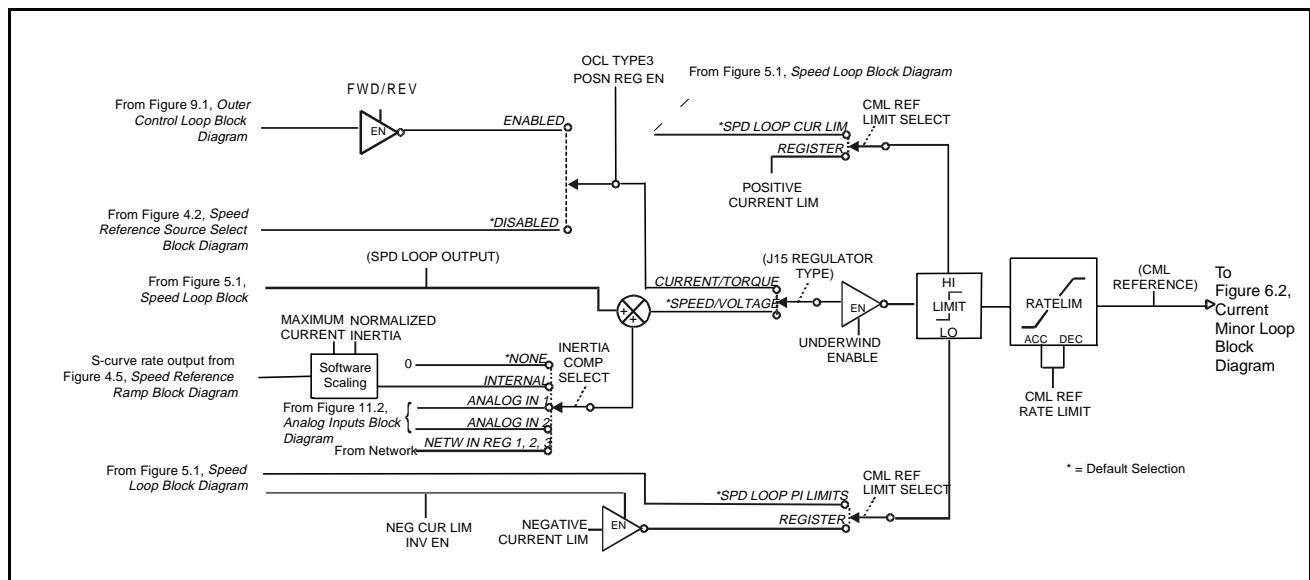
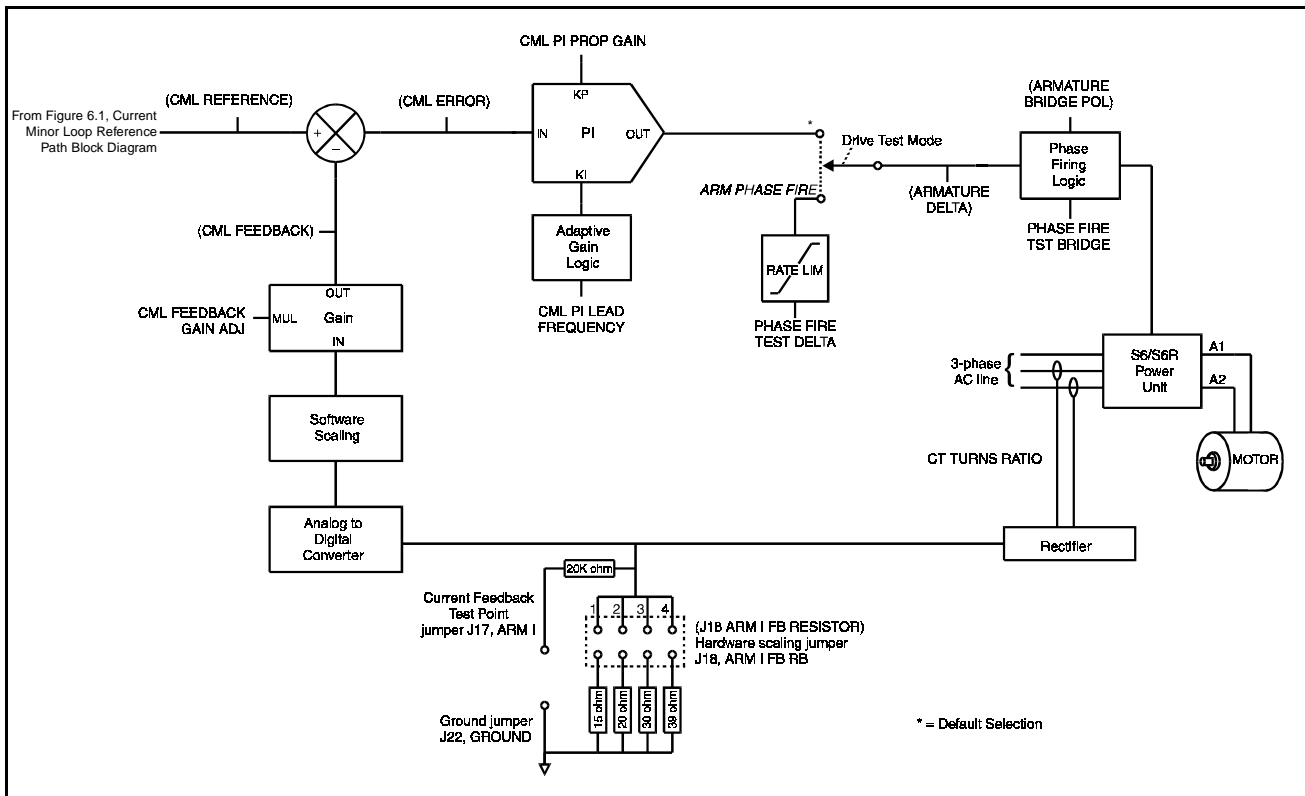

Figure 6.1 – Current Minor Loop Reference Path Block Diagram
Figure 6.2 – Current Minor Loop Block Diagram
The inverters are located in the speed loop feedback path (see figure 5.1) and the current minor loop reference path (see figure 6.1).
The CML is a simple control loop composed of a reference path, a feedback path, and a forward path that includes a proportional and integral (PI) block. See figure 6.2. The input to the PI block, known as the error, is the difference between the reference and feedback. The output of the PI block determines the level of current flowing through the motor armature. When a reference change occurs, the error becomes non-zero, causing the PI block output to change. This results in a higher or lower level of current flowing through the armature until the feedback again becomes equal to the reference.
Figure 6.1 shows the details of the CML reference path. Figure 6.2 shows the details of the CML regulator block diagram.
The selected CML reference passes through an amplitude limit block and a rate limit block. See figure 6.1 for the block diagram.
The inverters are located on the speed loop feedback path (figure 5.1) and the CML reference path (figure 6.1).
See figure 6.2 for block diagram.